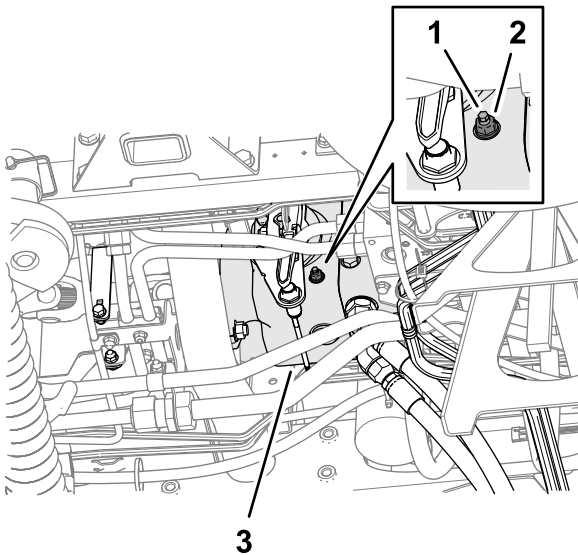

Figure 132
3. From the bottom of the machine and at the right side of the traction pump, loosen the locknut that secures the neutral return-adjustment screw (Figure 132).